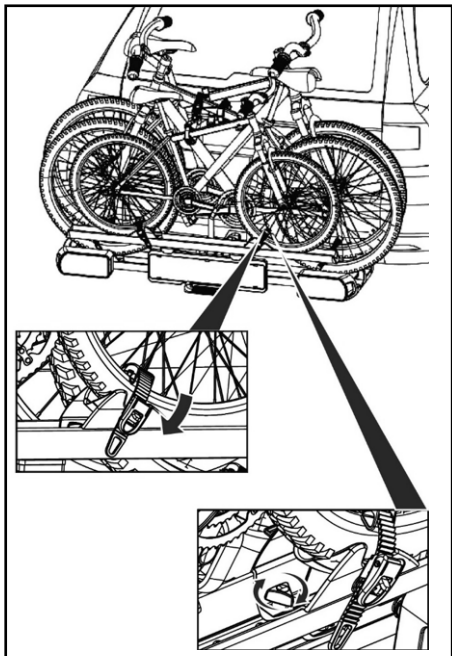

Figure 11: Fastening the third bicycle
- Before embarking on any journey, check that the strap is fastened correctly and firmly around the bicycles and U-frame of the rack (Figure 11).